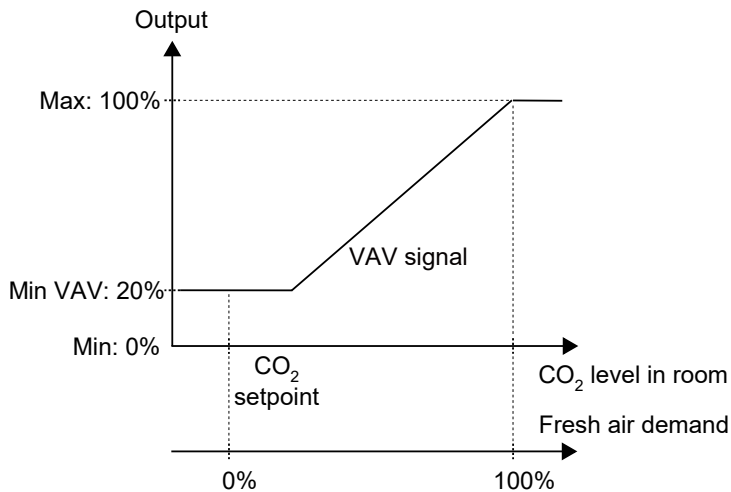

Figure 2-41 CO2 control behaviour.
*Figure 2-41* illustrates the control behaviour for CO2 control when a minimum limits is set for the VAV output signal.